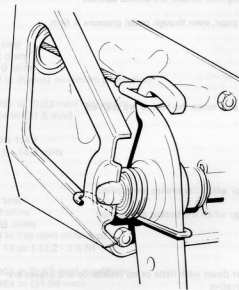

Fig. 9.28. Clutch pedal return spring (Sec. 17)
- 5 Unhook the clutch pedal return spring from the support plate, (Fig. 9.28), and lift out the pedals complete with mounting bracket and shaft.